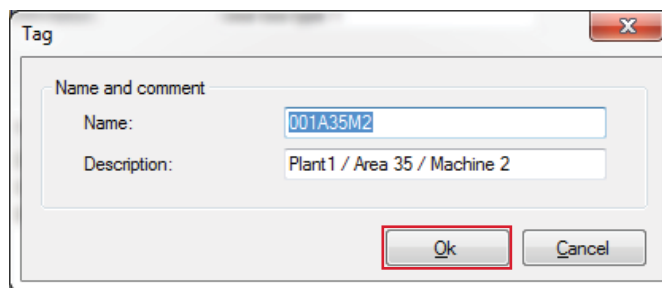

Fig. 5. Enter the name and description of the tag.
- Enter the **Name** of the tag and an appropriated **Description** and then click **OK** (→ fig. 5).